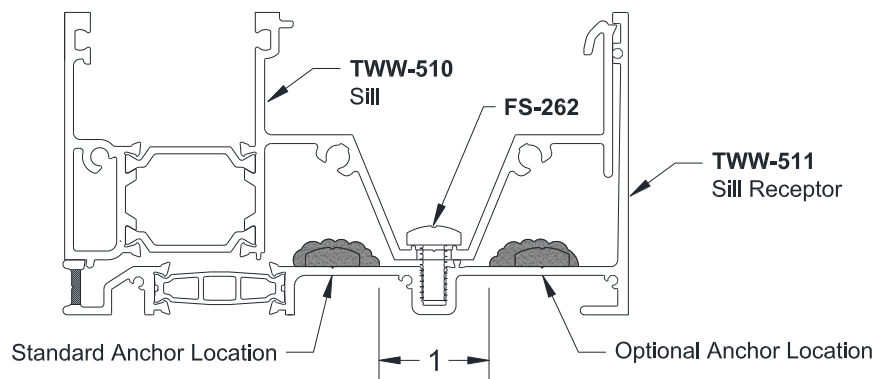

Figure 62: Sill Receptor Cap Seal Detail
- 17.4 Cap seal all fasteners. Check that the sealant over the perimeter fasteners has a 1" separation centered at the spline channel for the **FS-262** fastener, as shown in *Figure 62*.